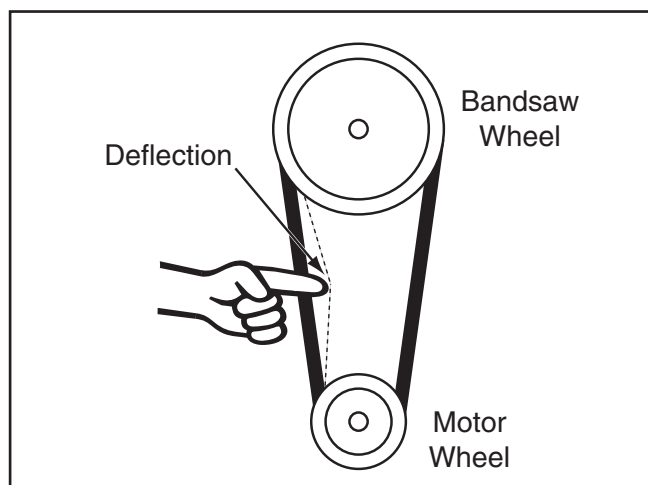

Figure 56. V-belt deflection.
4. Push the center of the V-belt. Note the amount of deflection (**Figure 56**). If deflection is more than $\frac{3}{4}$ ", re-tension the V-belt.